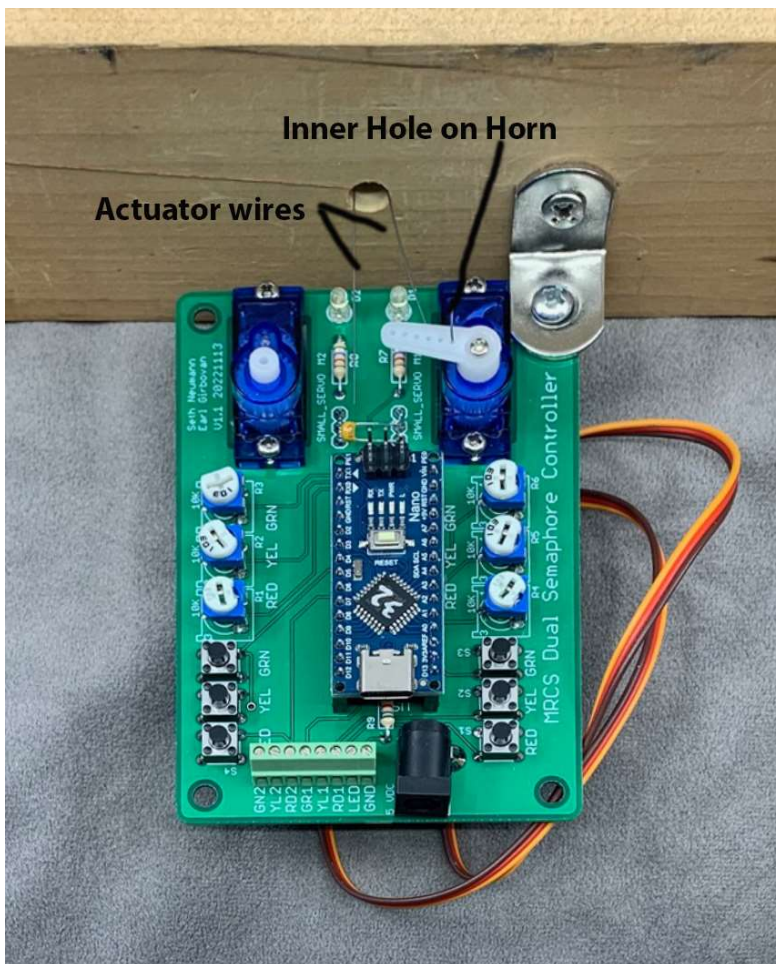

Figure 1- close up of board with actuator wires
6. I installed the PC board about 1/2" below the 1' cross piece with the servo horns centered below the hole. Note in figures 1 and 3 that only the right horn is installed, the procedure is the same for the other horn and actuator.
10. Now bend the actuator wire (you are controlling the opposite side of the semaphore from the servo) so it goes in the closest hole to the hub. (see item 7 above)